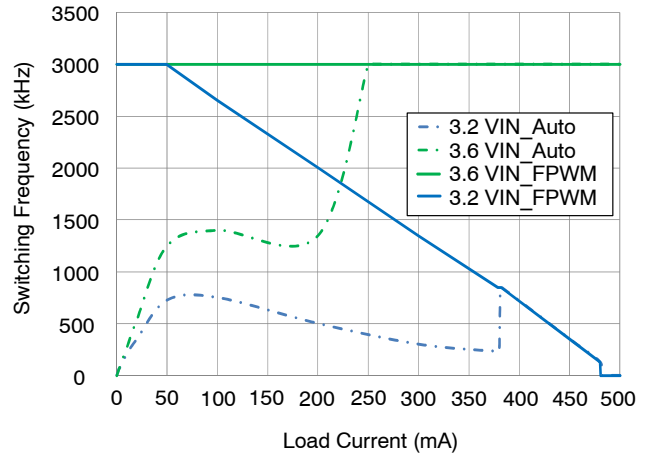

Figure 8. Effect of $t_{OFF(MIN)}$ on Reducing Switching Frequency
5. Limited by the effect of t_{OFF} minimum (see Figure 8 in Typical Performance Characteristics).